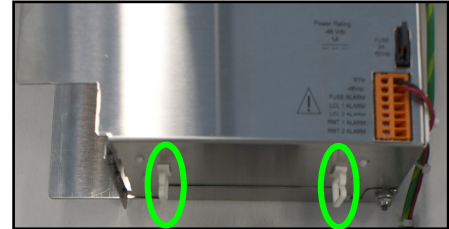

Fig 5: Routing the trimmed 48" connection cables via the cable guides installed
**1.6.3** Sets of 48" connection cables, terminated in the appropriate RJ connectors, have been provided with the assembly. Trim the un-terminated end of the connections cable to the desired length, routing the connection cables through the cable guides installed on the base of the TeleLite 3-slot "swing-Out" shelf. See Figure 5.